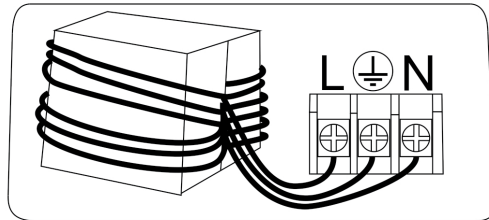

Fig. 5
- If the device is installed with the cable embedded in the wall, first remove the screw (8) (Fig. 2) from the bottom cover of the device (5) and then uninstall the original cable from inside the device. The recessed cable to the wall must be inserted inside the device and connected, turning the ferrite 4 turns, to the cable L (brown), N (blue) and earth  (yellow - green) to the terminal according to Fig. 5 Then the bottom cover of the device (5) can be closed.